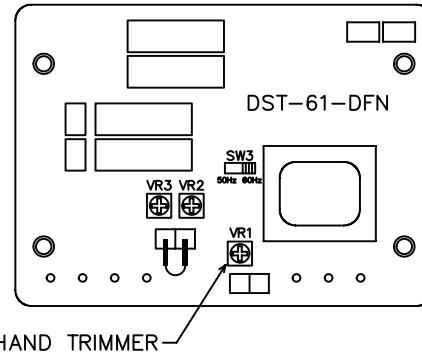

Figure 32: Hand Trimmer Location on AVR.
- a. If there is some voltage, but it does not build up to rated voltage, voltage adjustment can be made using the "hand trimmer" in the AVR (Figure 32).